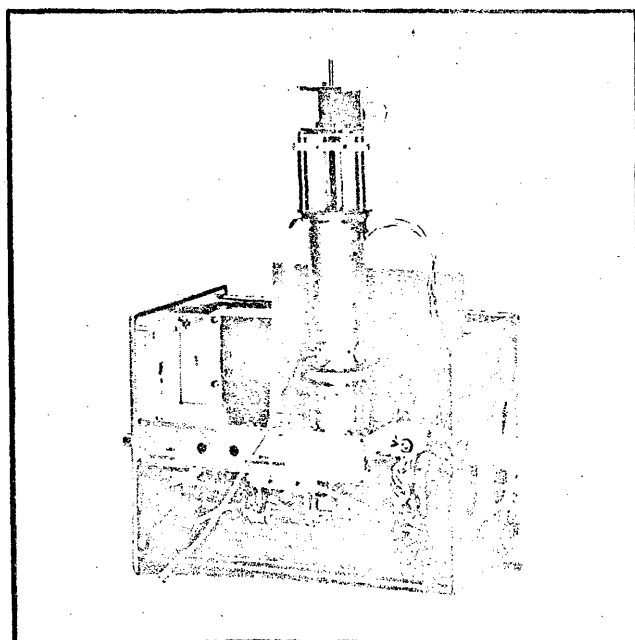

Fig. 6-32. Oscillator assembly removed and positioned ready for calibration.
4. Connect the voltage leads (filament, B+ and Varactor) to the oscillator assembly. Replace the back panel of the Type 1L30 and install 2 to 3 screws to hold the panel in place. (This reduces the possibility of short circuits.) Fig. 6-32 illustrates the position of the RF oscillator for calibration adjustments.